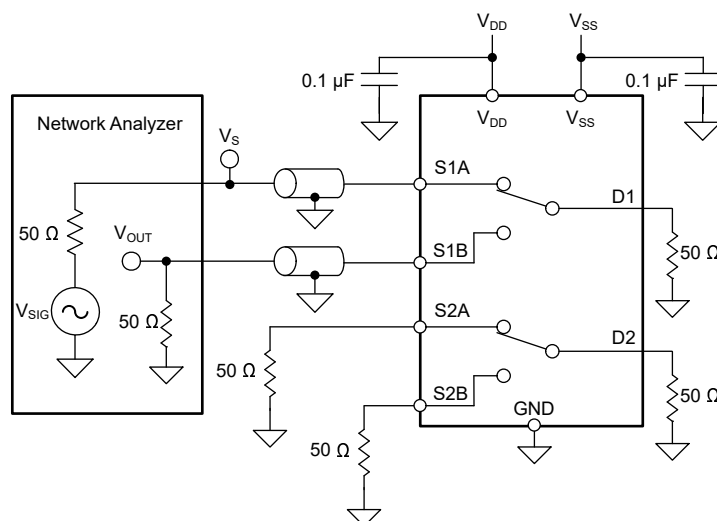

Figure 7-15. Intra-Channel Crosstalk Measurement Setup
1. Intra-channel crosstalk ($X_{TALK(INTRA)}$): the voltage at the source pin (S_x) of an off-switch input, when a $1-V_{RMS}$ signal is applied at the source pin of an on-switch input in the same channel, as shown in Figure 7-15.